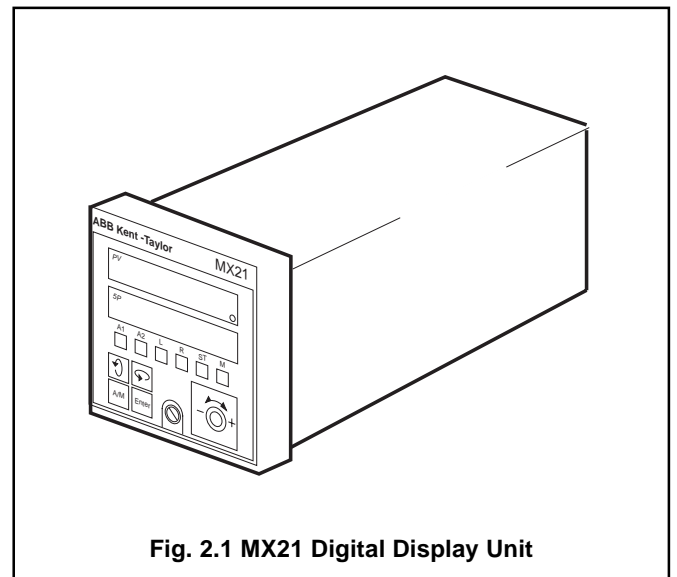

Fig. 2.1 MX21 Digital Display Unit
2.1 Model MX21 SP15 Indicator Unit (Fig. 2.1)